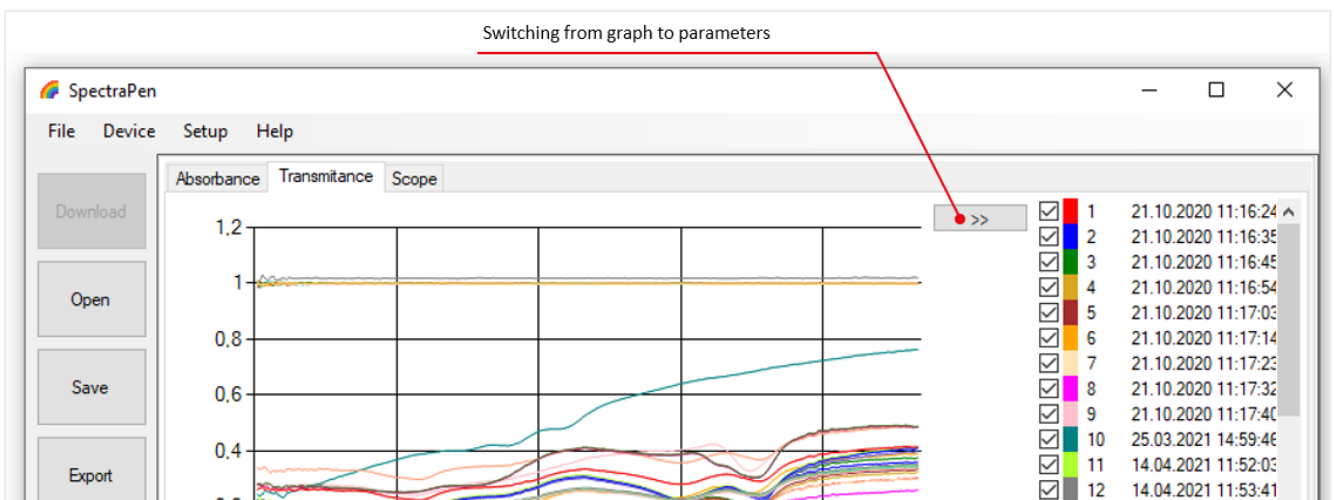
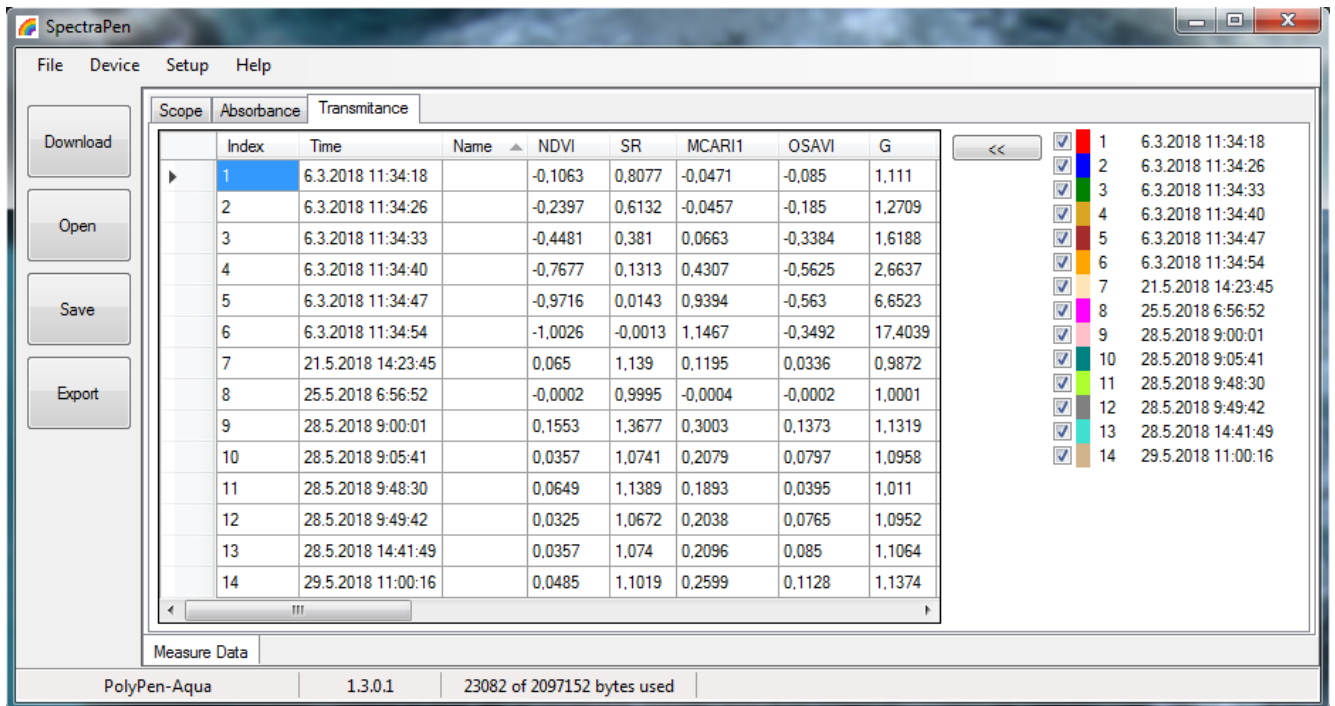

Fig. 31 Switch to vegetation indices.
Fig. 32 Transmittance - reflectance indices.
10. To view the spectral data in parameter values (Fig. 32) click to button with two arrows (Fig. 31). If you want to calculate your own index, you can do it from the raw data in Excel or you can add this formula to the Config/Formulas.txt in the SpectraPen program folder. Syntax is very simple, for example: